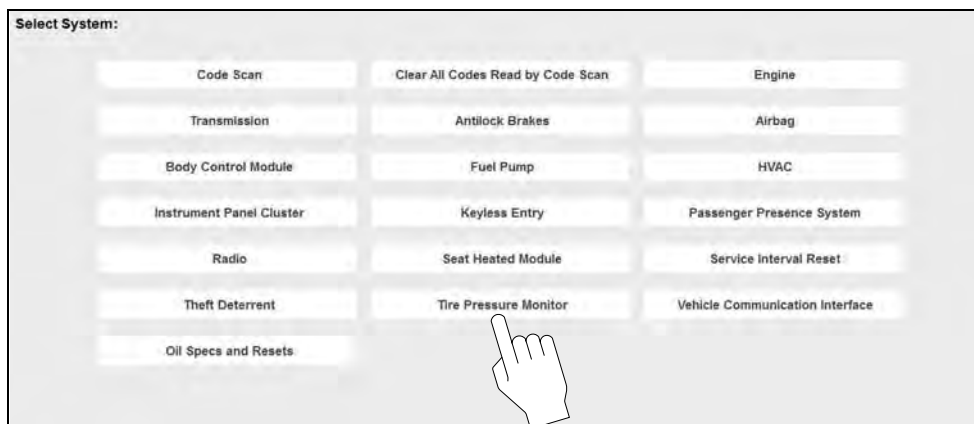

Figure 10-13 Scanner System Menu
- **From within a current Scanner session** - select **Tire and Wheel Service** (or applicable choice) from the System menu (Figure 10-13), then proceed to Step 3 below.